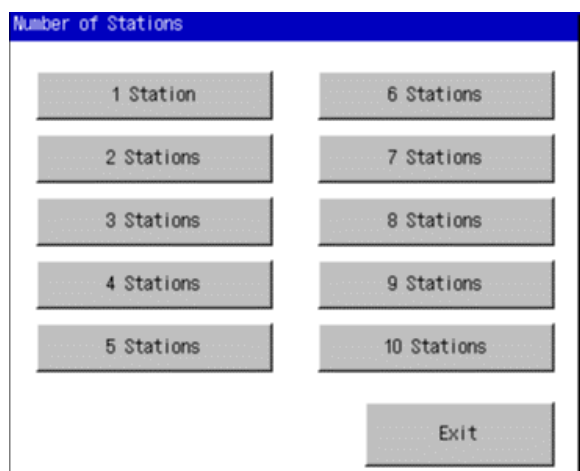

Figure 3-RR
- The Number of Stations screen displays (Figure 3-RR).